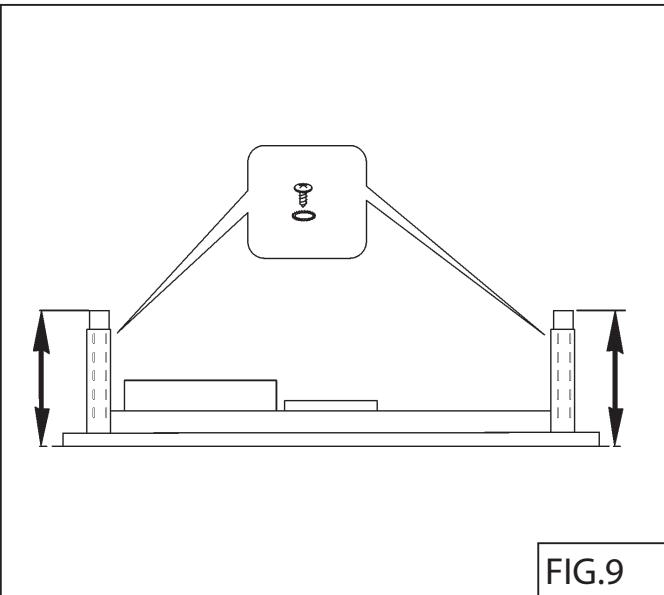

FIG.9
1. Adjust height of the telescoping support frame and secure with screws and washers. Fig.9.